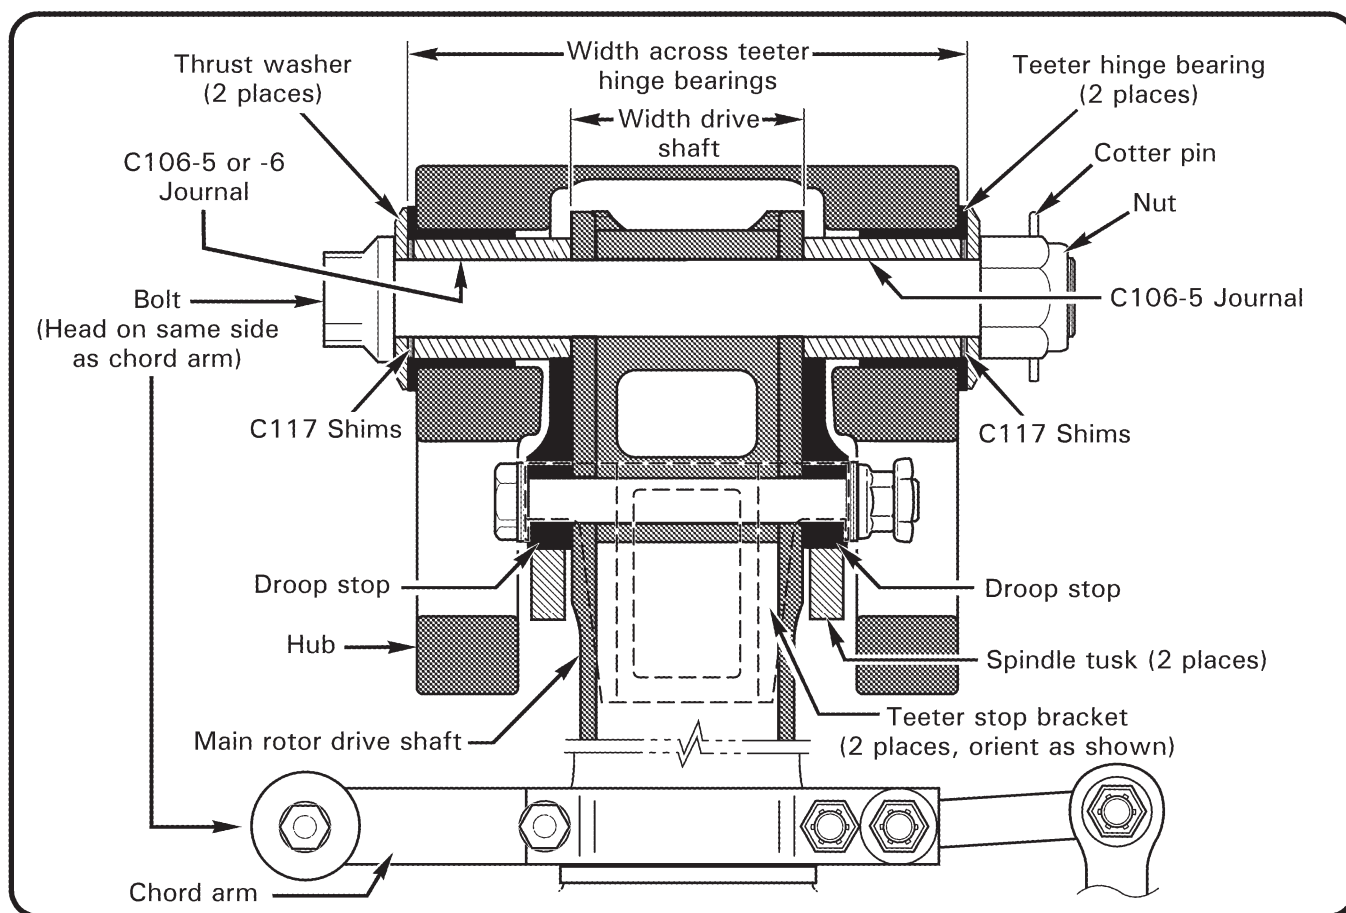
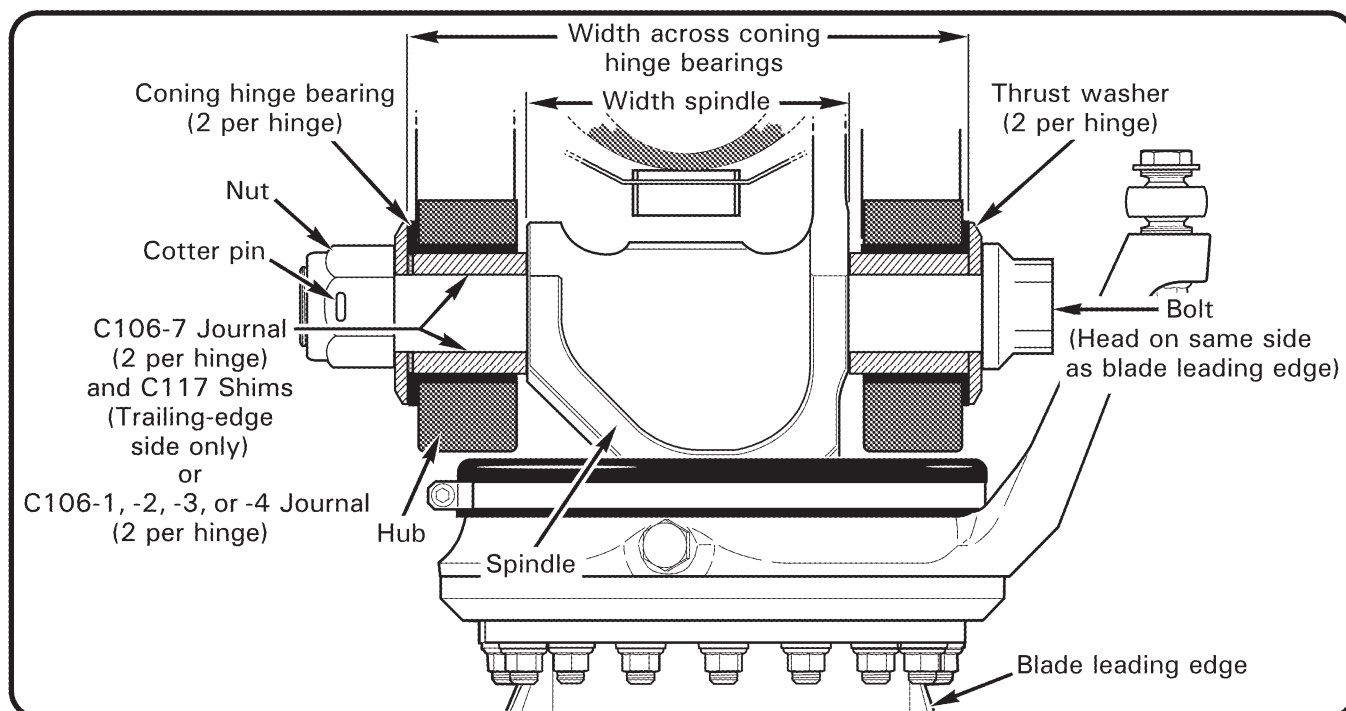

FIGURE 28-7 TEETER HINGE (HUB INSTALLATION)
FIGURE 28-8 CONING HINGE (BLADE INSTALLATION; VIEW LOOKING DOWN)
2. Refer to Figure 28-7. Mark rotor hub using a grease pencil, tape, or soft marker as follows:
3. Refer to Figure 28-7. Line up mark on hub with chord arm on drive shaft. Install teeter hinge bolt, thrust washers, shims, and journals (if previous installation information is available, install parts exactly as removed).
Refer to Table 28-1 and Figures 28-7 and 28-8.
5. Adjust journal combination or shim stack as required to meet coning hinge axial gap requirement per Figure 28-8 and to maintain teeter friction requirement as follows: It must be possible to manually cone each blade without teetering the hub when blades are held up off the droop stops and lifted at tip.
2. Refer to Figure 28-7 and Table 28-1. Remove cotter pin, nut, thrust washer, and nut-side C117 shims. Adjust teeter hinge friction by changing nut-side shim stack thickness in small increments; reducing shim stack thickness increases friction, increasing shim stack thickness reduces friction. Install shims, thrust washer, and nut.
1. Refer to Figure 28-8 and Table 28-1. Remove cotter pin, nut, thrust washer, and nut-side C117 shims (or journal). Adjust coning hinge friction by changing nut-side shim stack thickness (or journal length) in small increments; reducing shim stack thickness (or using a shorter journal) increases friction, increasing shim stack thickness (or using a longer journal) reduces friction. Coning hinge friction is zero when there is a measurable axial gap per Figure 28-7. Install shims (or journal), thrust washer, and nut.
2. Install nuts (dry); tighten nuts on hinge bolts until journals and thrust washers are firmly seated (snug). Measure gaps between thrust washers and hub bearing faces per Figure 28-8; verify total axial clearance at each hinge is between 0.002–0.006 inch.